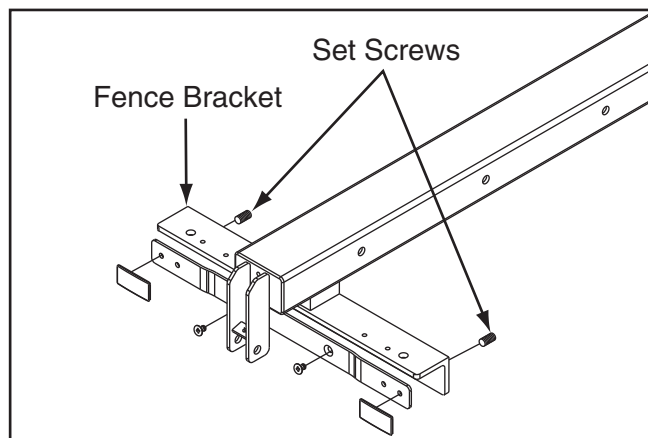

Figure 87. Location of set screws used to adjust fence parallelism and clamping pressure.
2. Remove the fence and adjust the set screws shown in **Figure 87** equally on the rear side of the front bracket as necessary until the clamping pressure is strong enough that the fence will not move as pressure is applied against it.